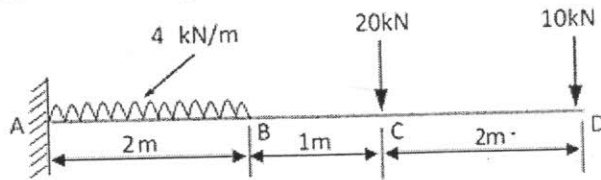

Figure.7(b)
- b) Find the slope and deflection at the free end of the cantilever shown in fig.7(b). Assume $E=200\text{GPa}$, $I=40\times 10^6\text{ mm}^4$